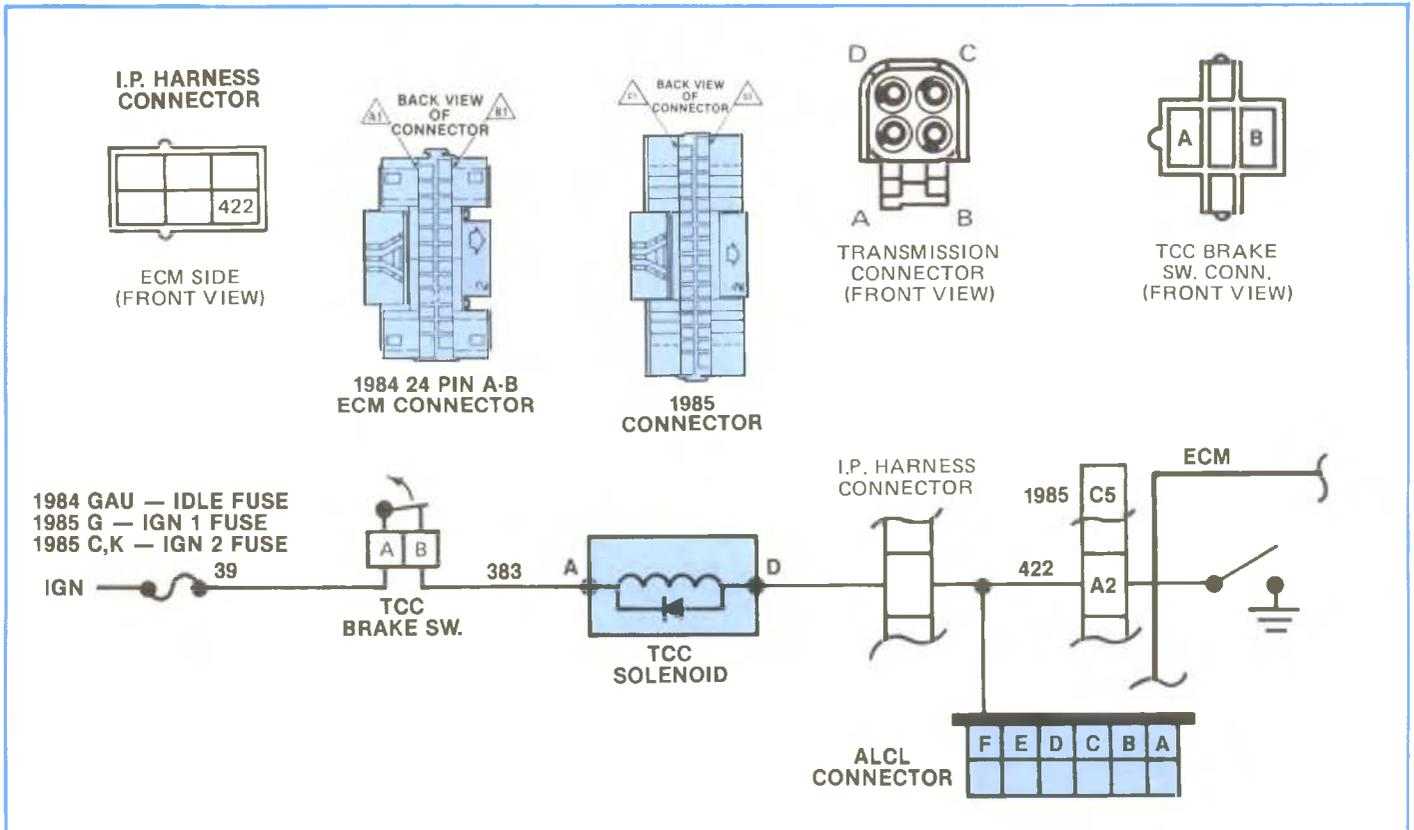

Figure 5-68, 1984 and 1985 TCC Check.
4. Install TPS/VRV gage block to J-33043-2 or equivalent using the .646 side of the block. Position tool between gage boss on injection pump and the wide open stop screw on throttle shaft (Figure 5-68).
The ECM completes the circuit whenever the TPS exceeds a calibrated valve for throttle opening. (See Figure 5-68).